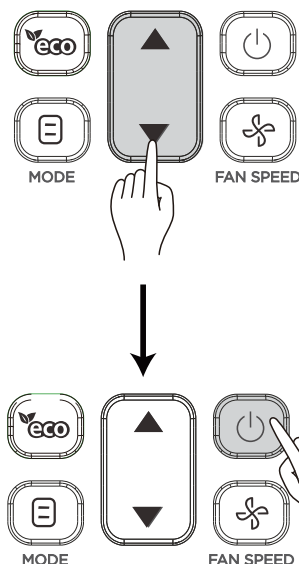

Figure 4.5
② Press ▲ and ▼ to adjust the parameter value;
③ Once the adjustment is done, press  or wait for 5 seconds to save the parameter settings. The operation sequence for the button is as shown in Figure 4.5.